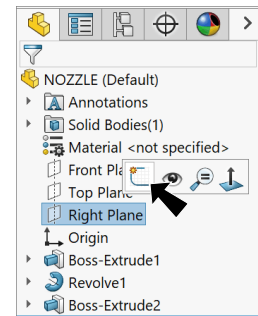

Fig. 23
Step 1. Click **Right Plane**  in the Feature Manager and click **Sketch**  on the context toolbar, **Fig. 23**.